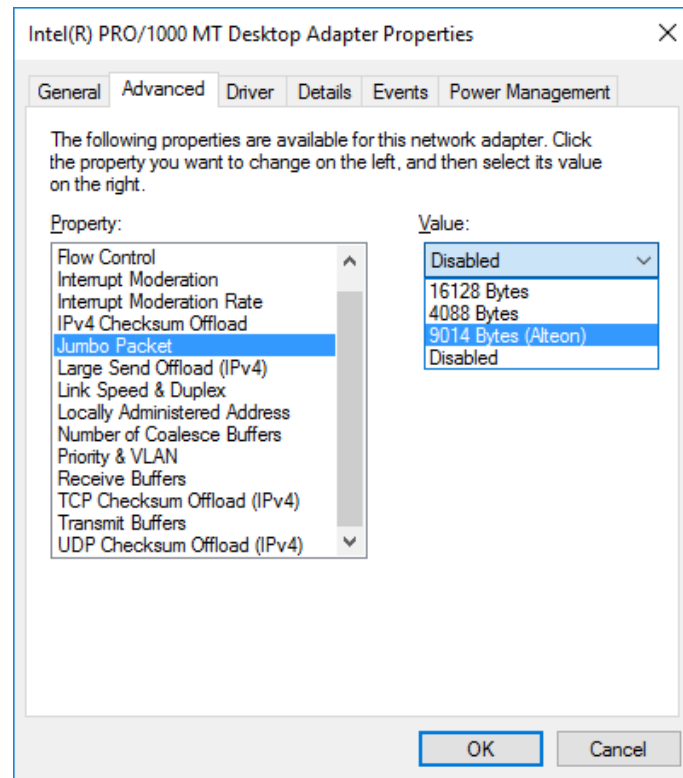

Figure 7: Jumbo Frames configuration in Windows
5. Select 'Jumbo Packet' and choose the desired packet size (see Figure 7)